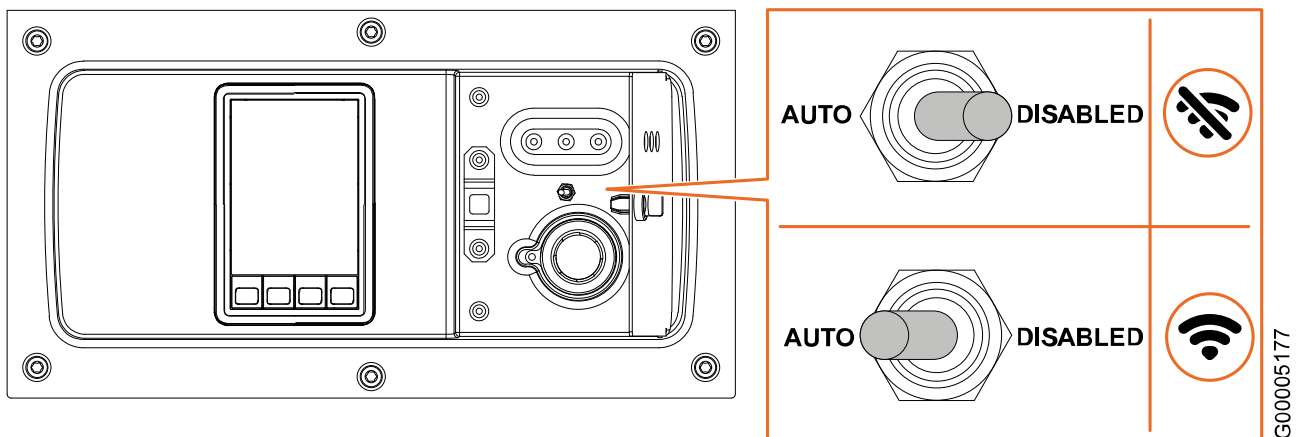

Fig. 40 Connectivity switch
- Connectivity switch towards **DISABLED**: The connectivity is disabled. The top icon in **Fig. 40** is shown on the display.
- Connectivity switch towards **AUTO**: The connectivity is in automatic flight detection mode. The lower icon in **Fig. 40** is shown on the display (empty if there is no reception, filled if there is reception). If the connectivity switch is switched towards **AUTO** while the container is close to an aircraft, the connectivity will not be turned on until the container has left the aircraft.